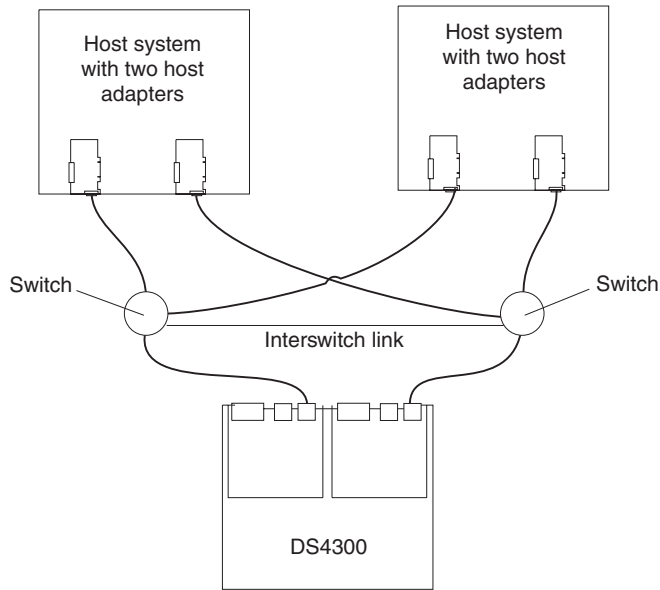

Figure 22. Example of a single-SAN fabric zone configuration (Model 60U/60X)
- Single SAN fabric zone configuration (Figure 22 on page 28)